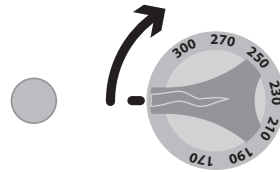

Fig. 8
2. Turn the thermostat knob to adjust the cooking temperature. When the yellow light is on it means heating is in progress (Fig. 8).